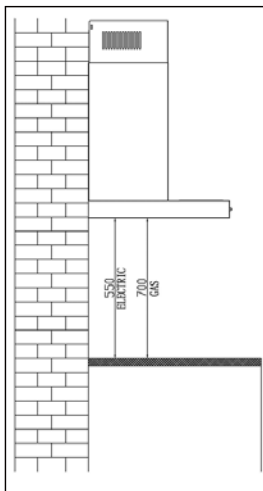

Fig. 1
- The extractor hood can be installed over gas and electric cook top. Minimum installation height from the bench top to the bottom of the hood is 700mm (gasrange) and 550mm (electricrange)(Fig.1).